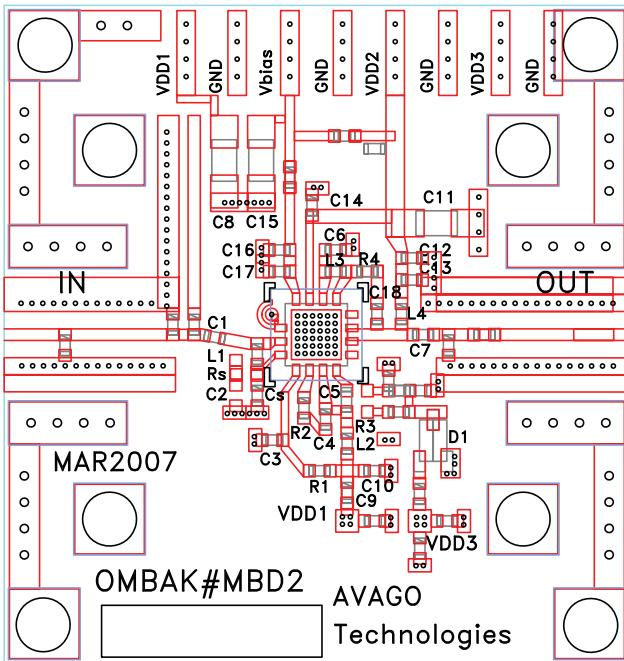
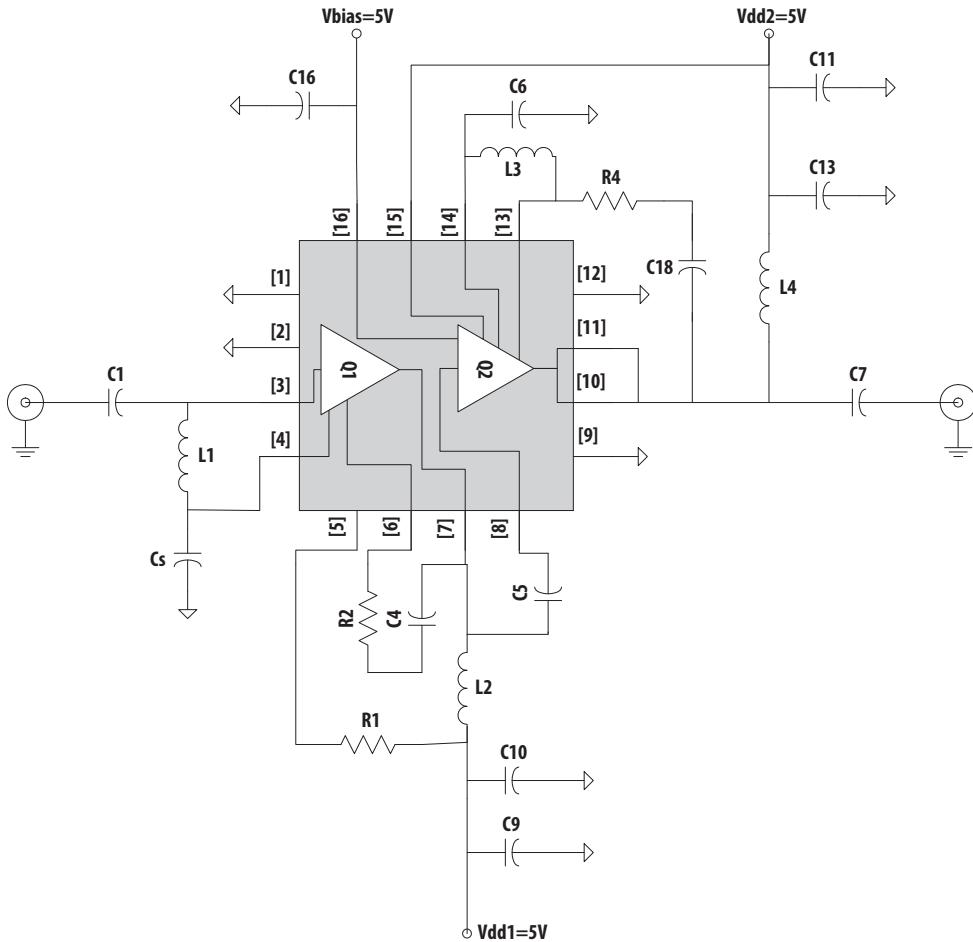
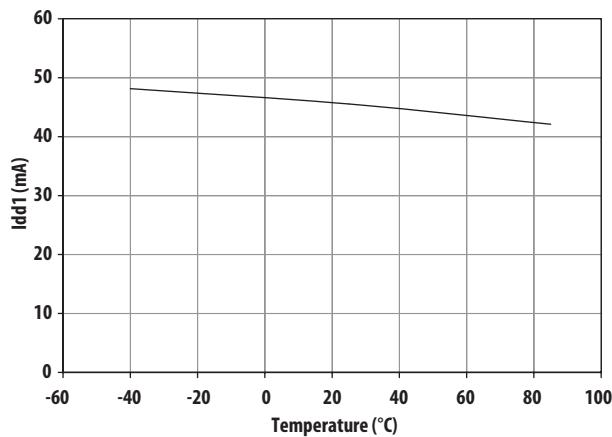
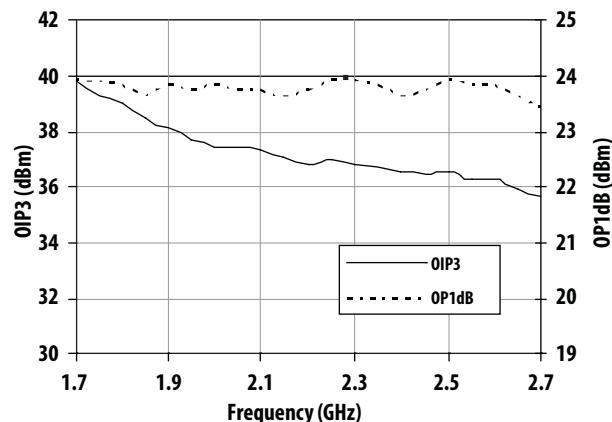

Figure 5. Demo Board Layout
Figure 6. Demo Board Schematic
Figure 7. Idd1 vs. Temperature
Figure 17. OIP3 and OP1dB vs. Frequency
Demo board (shown in Figure 5) component values used for demo board schematic in Figure 6. These component values are used when measuring Electrical Specifications and plots of Figure 7 to Figure 17.
1. Measurements obtained using demo board described in Figure 5 with component list in Table 1. Input and Output trace loss is not de-embedded from the measurement.
$T_A = 25^\circ\text{C}$, $V_{dd1}=5\text{V}$, $V_{dd2}=5\text{V}$, $V_{bias}=5\text{V}$ unless stated otherwise. Measured on demo board in Figure 5 with components listed in Table 1.